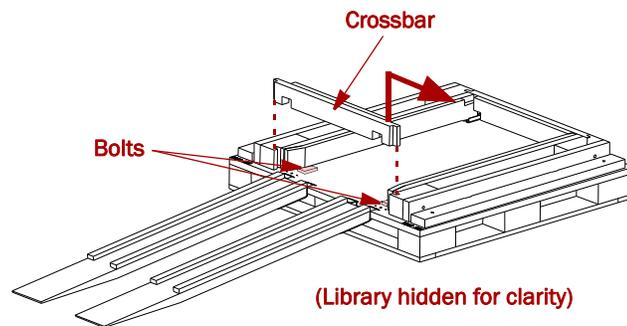

Figure 2-5: Removing the Rear Crosspiece
- a. To provide access to the hold-down bolts and leveling legs, remove the **rear crosspiece** (Figure 2-5). This is done by opening the rear door, lifting the right end of the crosspiece, and sliding the left end of the crosspiece out of its recess.